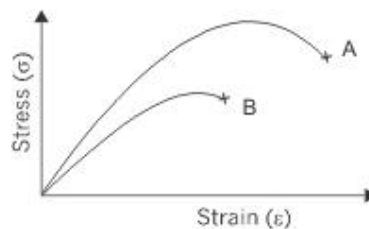

Fig. 1.2
Q.12. Consider the stress strain diagrams shown in figure 1.2 for two materials, A and B, conclude which material is: